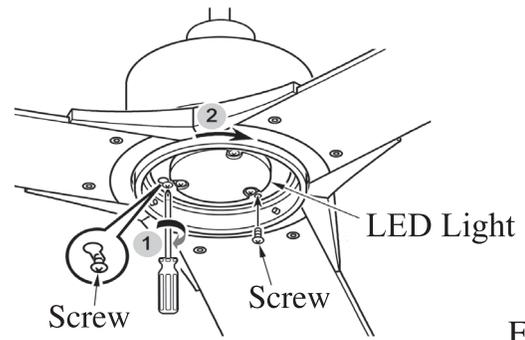

FIG.21
5. Attach the LED module using the three previously removed screws.(See fig.21)